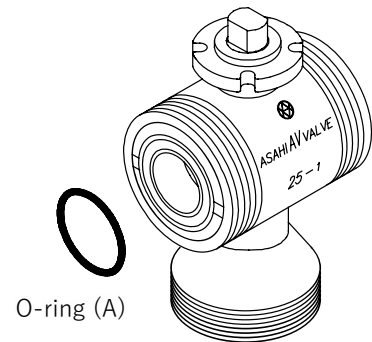

Figure 5.1-3
- 7-1) Confirm that the O-ring (A) is properly installed on the body. (Figure 5.1-3)
- 7-2) Place the end connector and union nut against the body side so that the O-ring (A) does not come off.